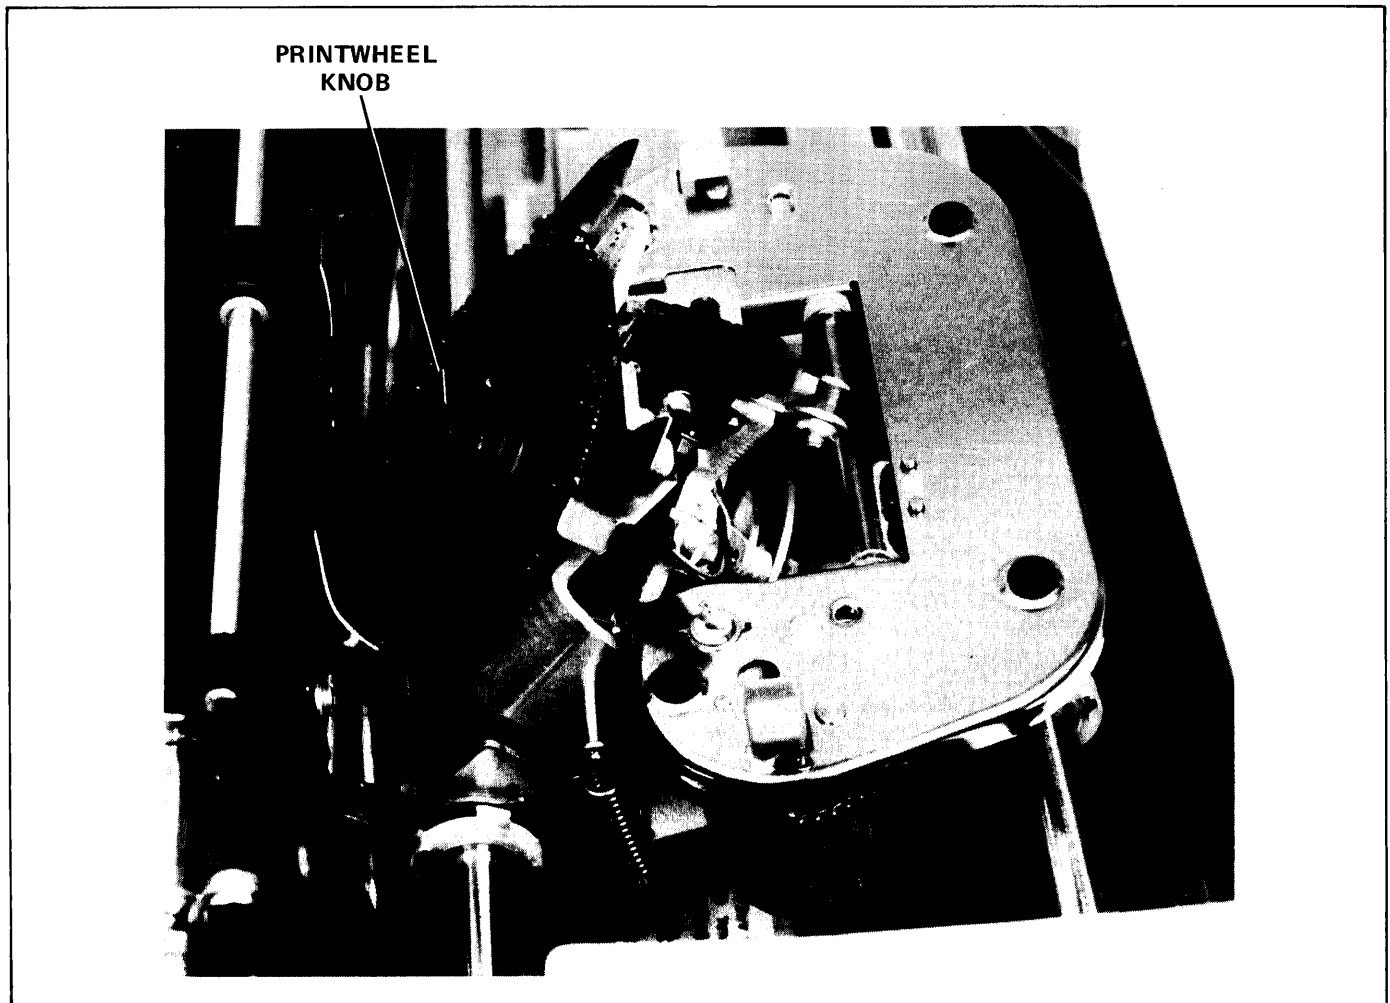

Figure 2-10. Carriage Tilted for Printwheel Access
- (1) Raise or remove the access cover [see 2.2.4(6)].
- (2) Remove the ribbon cartridge (see 2.4.1).
- (3) Pull the carriage toward you, away from the platen. It will snap into the position shown in Figure 2-10.
- (4) Remove the printwheel by pulling on the rubber knob at the printwheel hub (Figure 2-10). Place the printwheel in its protective case.